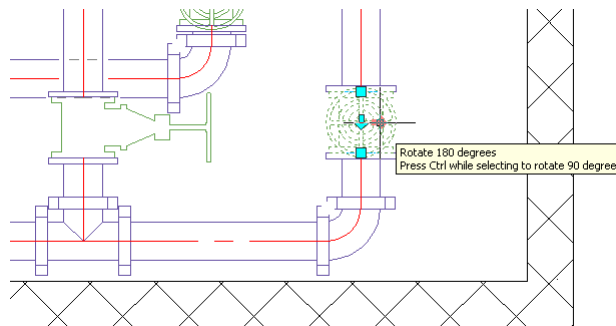

Figure 6.49
9. Repeat the process to add two more valves to the discharge piping. Place one right before the elbow (right pump) and the other right before the Tee (left pump) as shown in Figure 6.49.
10. After placing the valve, select it, hold down the CTRL key, and click the flip grip to rotate the valve 90 degrees instead of 180 (see Figure 6.49).